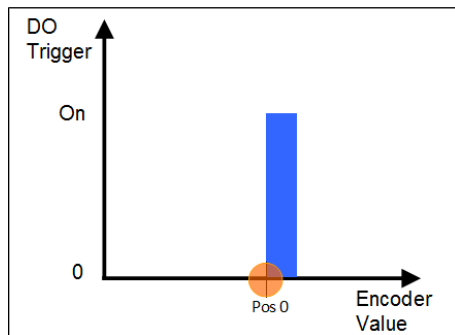

Figure 11: Single position compare
1. Single position compare (Figure 11): The user has to set one compare position at which a digital output signal will be triggered. The DO trigger will always be generated once the encoder counter reaches this position, regardless from which direction.